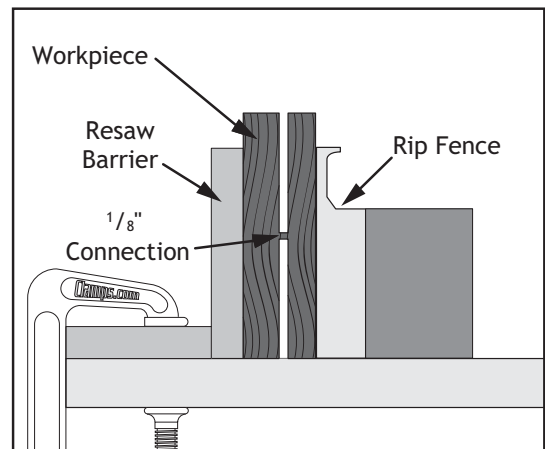

Figure 88. Ideal completed resaw cut.
4. Place the workpiece against the fence and slide the resaw barrier against the workpiece. Now clamp the resaw barrier to the top of the table saw (see **Figure 88**).
6. Raise the blade approximately an inch, or close to half the height of the workpiece (**Figure 88**), whichever is less.
9. Repeat **Steps 6-8** until the blade is close to half of the height of the board to be resawn. The ideal completed resaw cut will leave an $\frac{1}{8}$ " connection when the resawing is complete as shown in **Figure 88**. Leaving an $\frac{1}{8}$ " connection will reduce the risk of kickback.